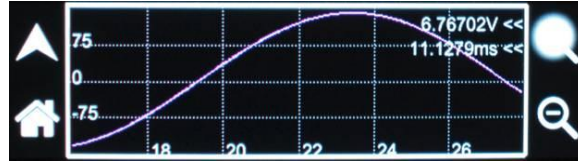

Figure 6-6. TRACE Screen, Expanded Zoom View
7. Using the encoder, click on the Plus-Magnifier to active it, then rotate the encoder to select the waveform window. Click again to show the zoom cursors. Rotate the encoder to move the cursors to the beginning of the waveform section to be expanded; click the encoder to set the first cursor. Rotate the encoder to move a second cursor to the end of the section; click again to display the expanded section; refer to Figure 6-6. Double-arrows in the right-side, upper corner indicate the direction from the expanded trace to the yellow cursor position.
8. Using the touch-screen, tap the Plus-Magnifier to activate it, then tap the waveform window to select it. Touch on the beginning of the waveform section to be expanded, and while continuing to touch the screen, move to the ending position; no longer touching the screen will display the expanded section; refer to Figure 6-6. Double-arrows in the right-side, upper corner indicate the direction from the expanded trace to the yellow cursor position.
9. Multiple levels of zoom could be executed. When the display is showing an expanded section, the Minus-Magnifier will be available; refer to Figure 6-6. Tapping on it will cause the display to revert to the previous level of zoom. The level of zoom could be reversed until the original waveform is displayed.